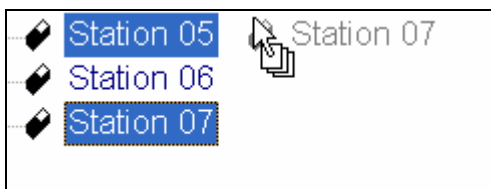

Figure 16.4.42B
- While holding down the left button of the mouse, drag this station to the one you want to slave it to (Figure 16.4.42B).